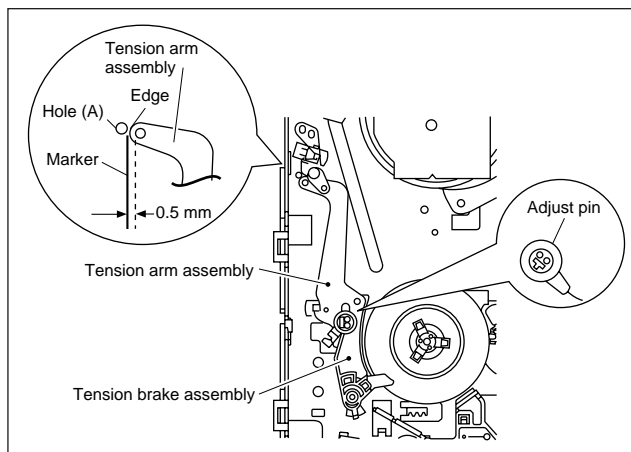

Fig. 2-3-5a
- 2) Set the VCR to the play back mode and adjust by turning adjustment pin to align the tension arm assembly edge with the main deck hole (A) on the right edge marker. (See Fig. 2-3-5a)